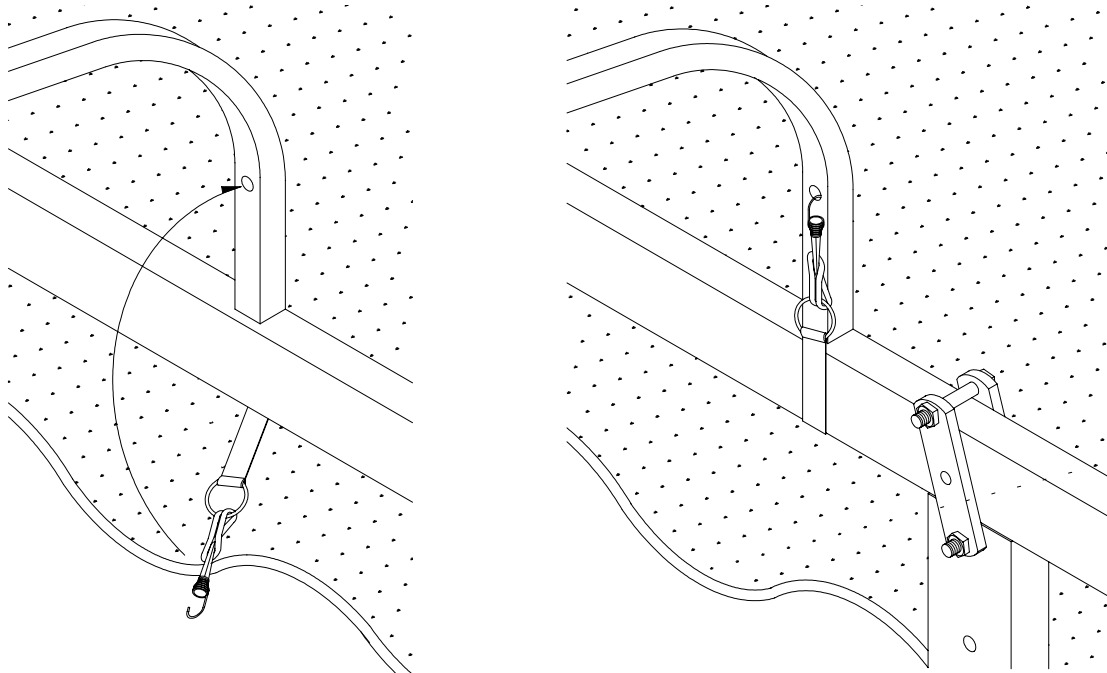

Figure 2-9
18. Refer to **Figure 2-9**. Wrap a bungee cord around the ring in the tie down strap and thread hook end through loop. Attach hook end to hole in canopy rib as shown.
19. Refer to **Figure 2-9**. Insure that the canopy is positioned at the desired location in relation to the boat.